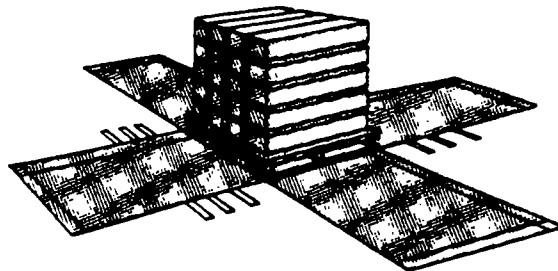

Figure 8-2. Centered Load
following steps and Figures 8-2 through 8-6 explain how to rig an A-22 cargo bag:
Step 3 - Center the load on the canvas/nylon cover (Figure 8-2). Place the load so that any sharp corners or objects are toward the center of